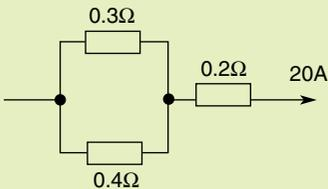

Figure 28
30. The current flowing in the $0.4\ \Omega$ resistor in Figure 28 is